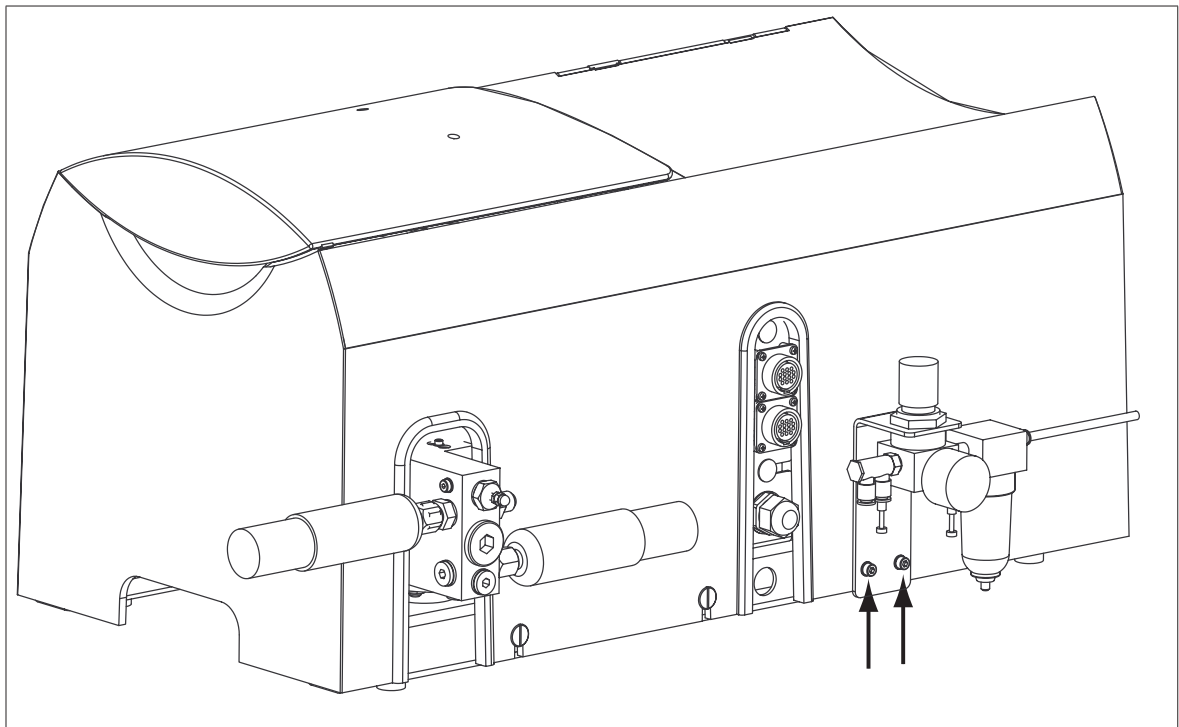

Figure 10.1.2/1: Assembly of spray-air adapter kit
3. Screw on the spray-air adapter kit as shown in Figure 10.1.2/1. The corresponding threaded holes have been provided on the frame of the tank system.